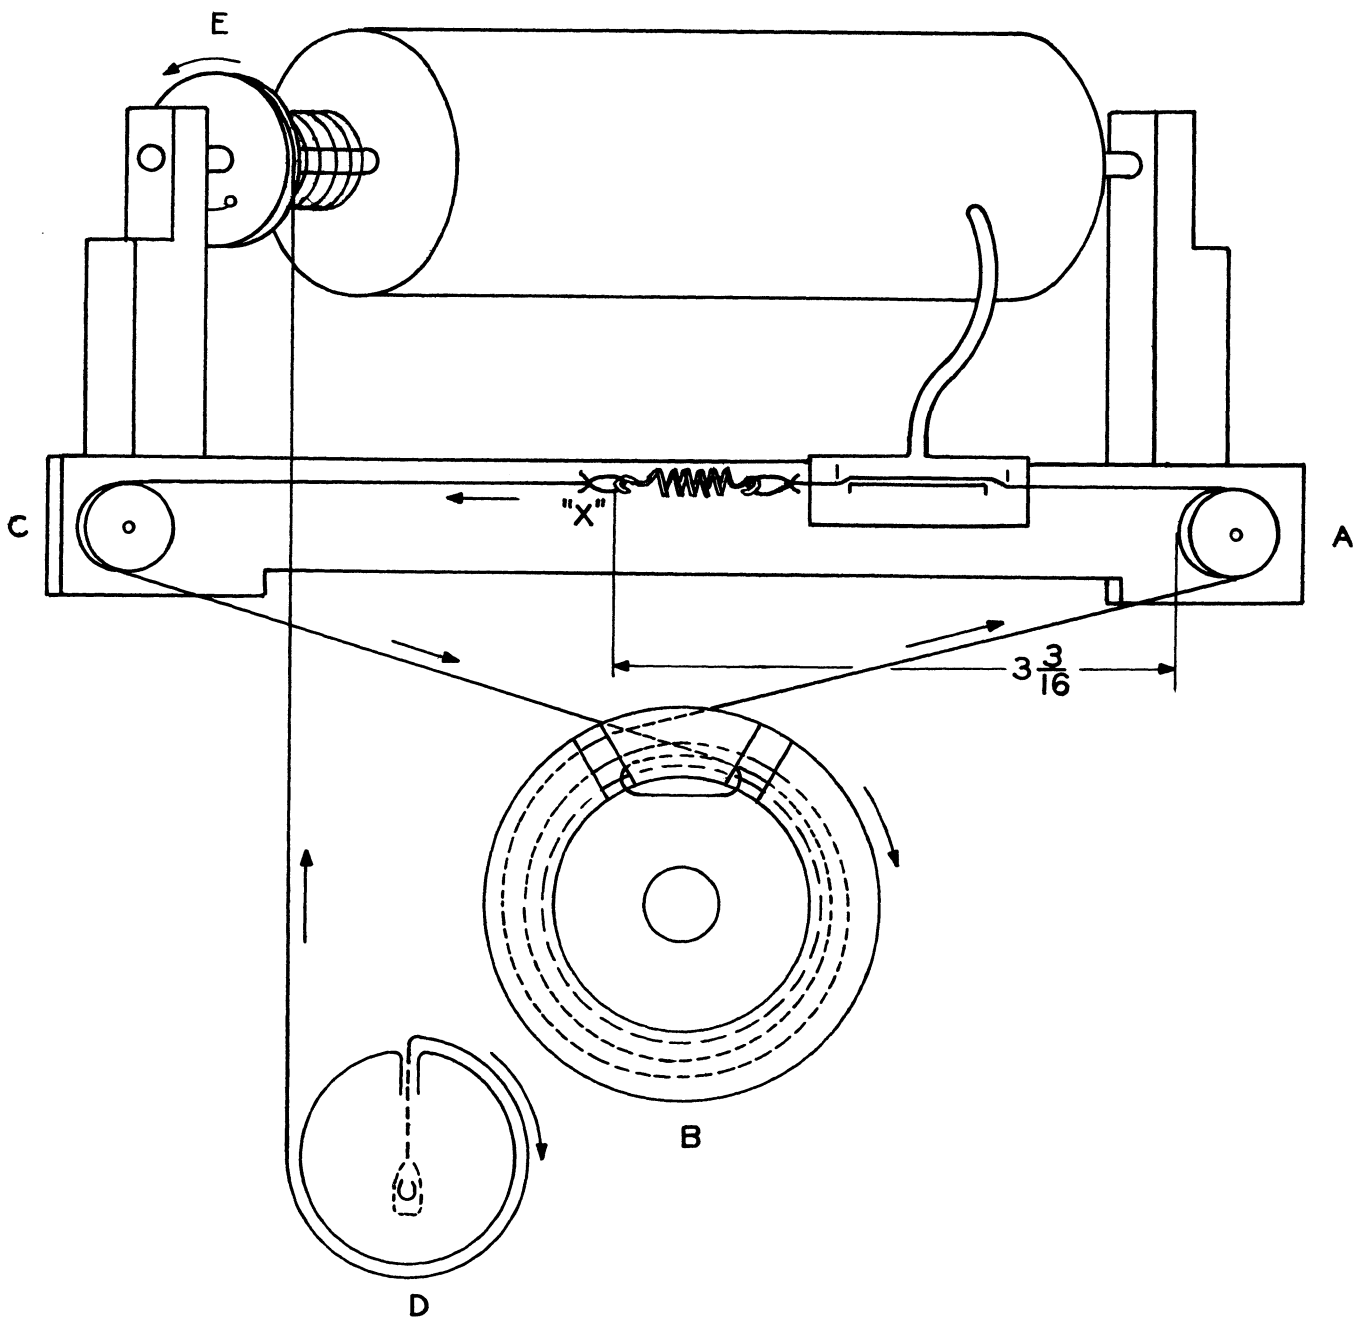

Figure 5-2. Dial Cord Replacement
5.4.1 GENERAL. - The front panel must be removed to replace either the dial pointer cord or the drum rotator cord. Figure 5-2 shows both cords in place and the direction in which the restringing should proceed.